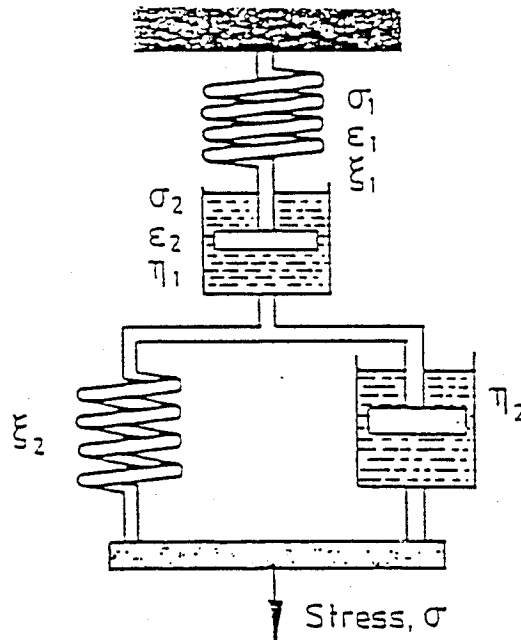

FIGURE 3
- 3(a) Derive and sketch the creep compliance of the 4-element viscoelastic model shown in Figure 3.